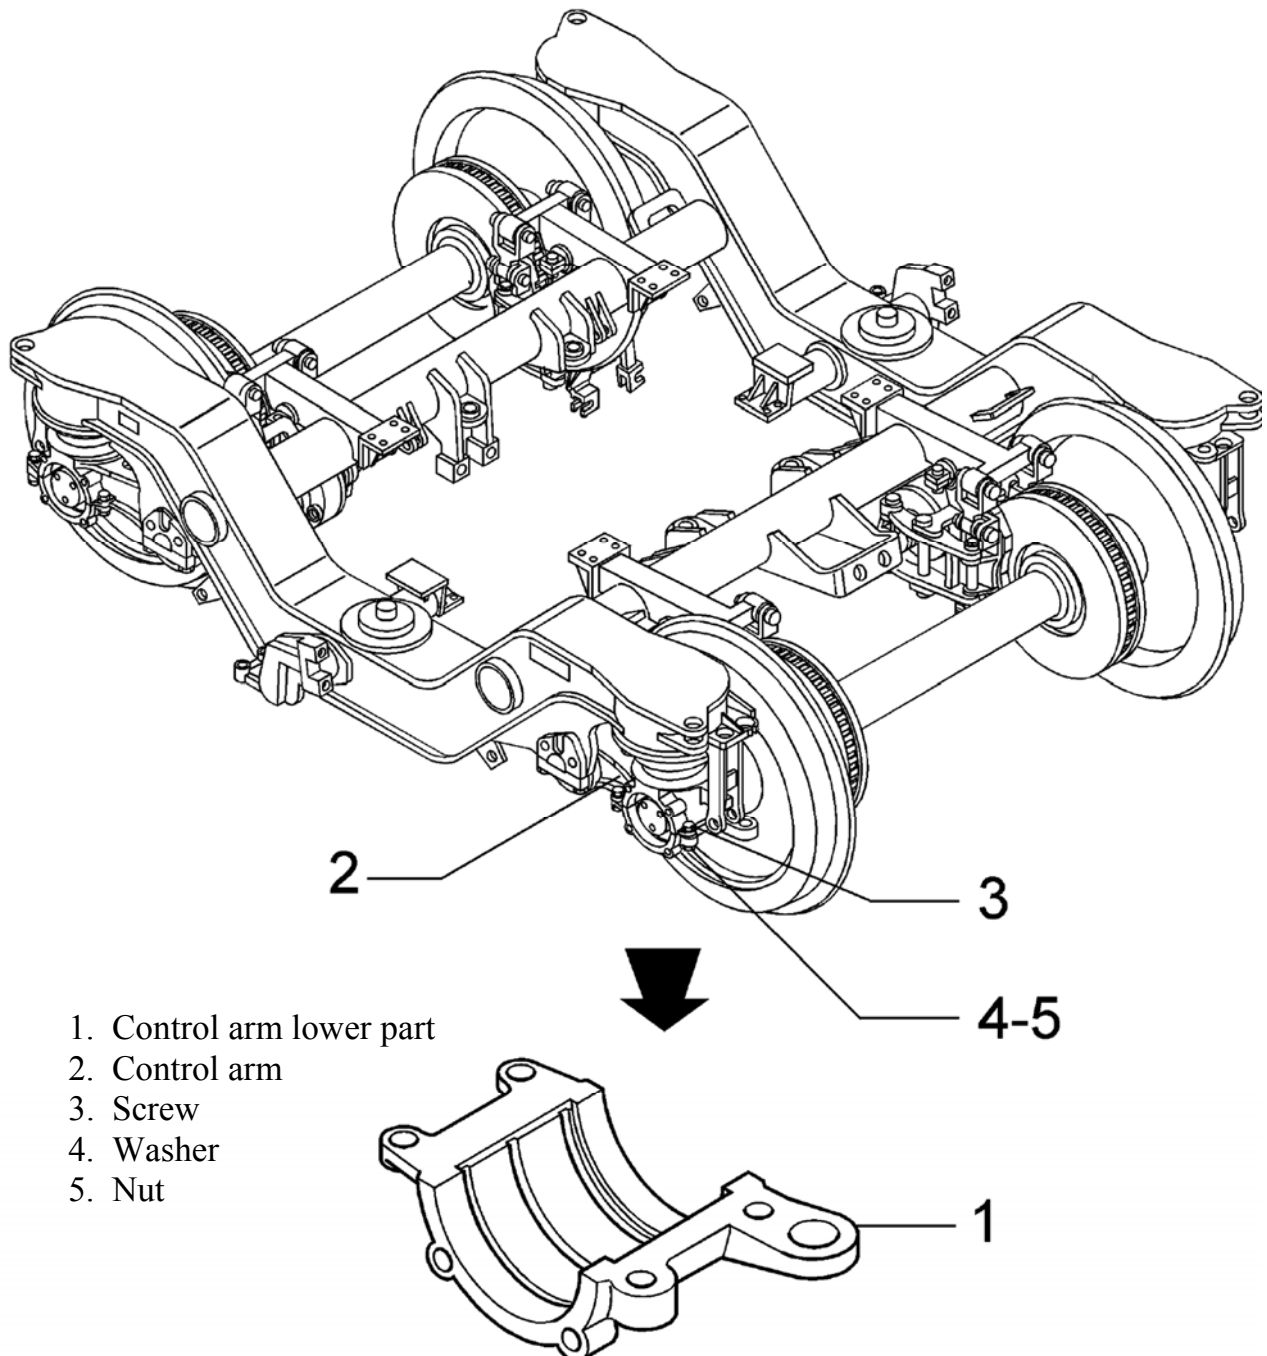

FIG. 4.40 REMOVAL OF LOWER PART OF CONTROL ARMS
Then proceed with removal of the lower part (1 - FIG. 4-40) of the control arms (2), extracting the screws (3), the washers (4) and the nuts (5). proceed with all the four control arms.